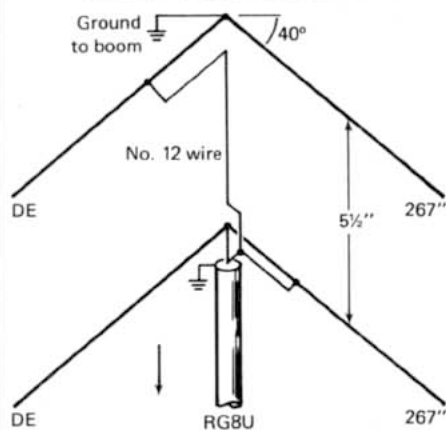

Fig. 1- This was constructed to test the theory of "V" beam operation. It proved forward gain and front-to-back ratio.
I started off first by bending the antenna elements forward  $40^\circ$  to determine if the reported 3 to 5 dB additional gain actually could be realized. The first antenna was a two-element antenna with both elements of equal length (fig. 1). This proved two things: (1) that front-to-back ratio could be obtained, and (2) that good forward gain could be achieved. They both were justified in this design.